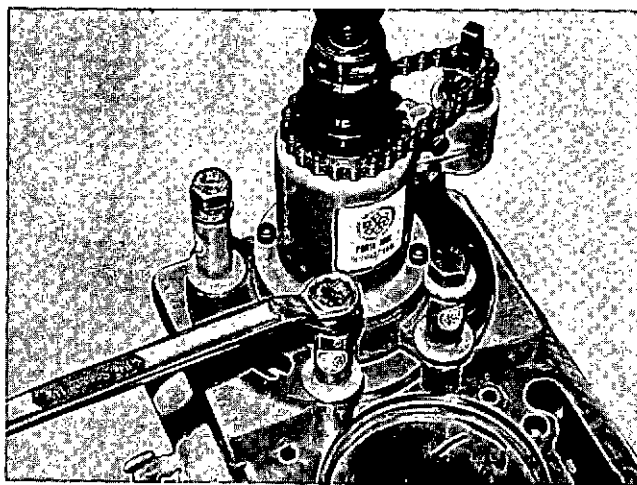

Fig. 1-1-37, V40174. Clamping tool to block
2. Place the boring machine on the cylinder block above bore to be cut and hand start mounting cap screws. The cap screw spacers (Detail 29 or 40) must be on cap screws. Fig. 1-1-37.
13. Place a 0.004 inch [0.1016 mm] feeler gauge between block and tool bit and lower the tool bit onto feeler gauge by pulling up on retractor knob while pushing down on set collar. Fig. 1-1-37.